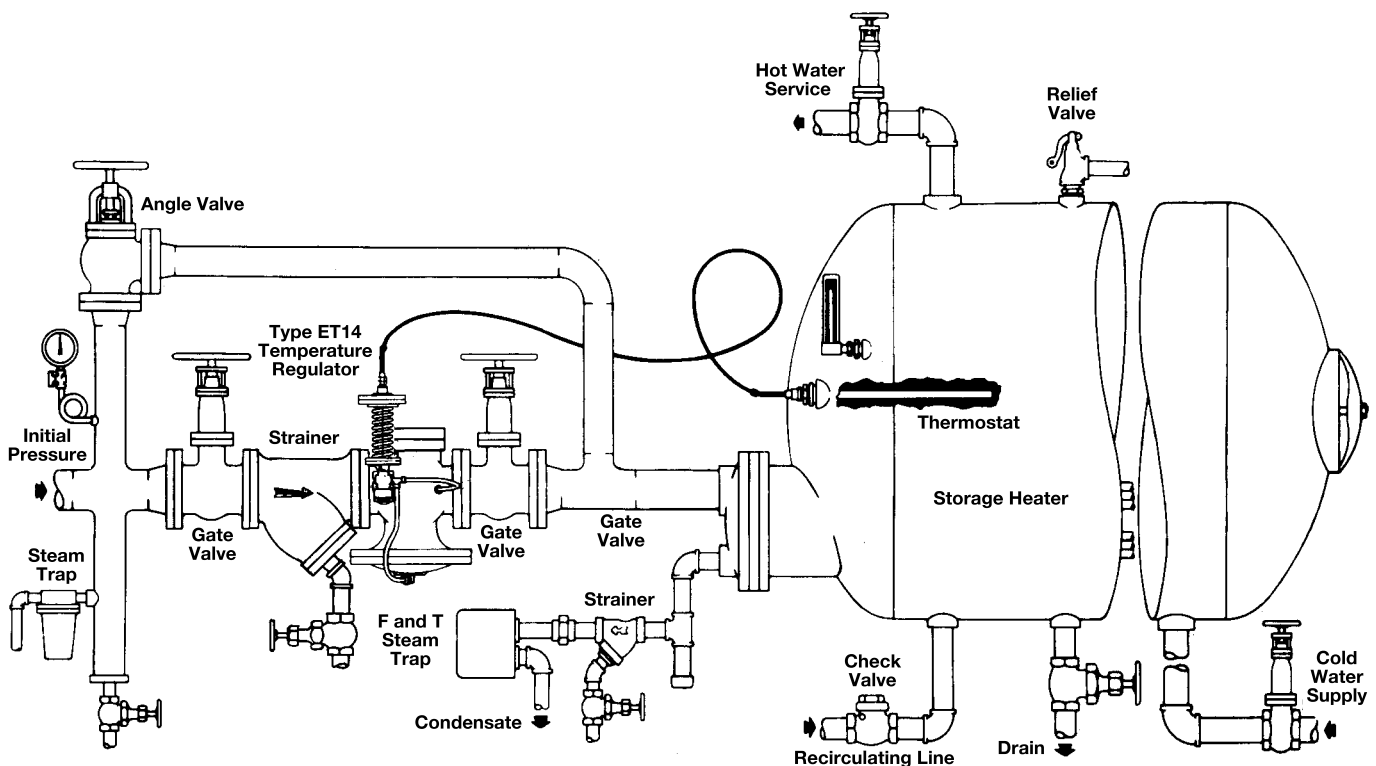
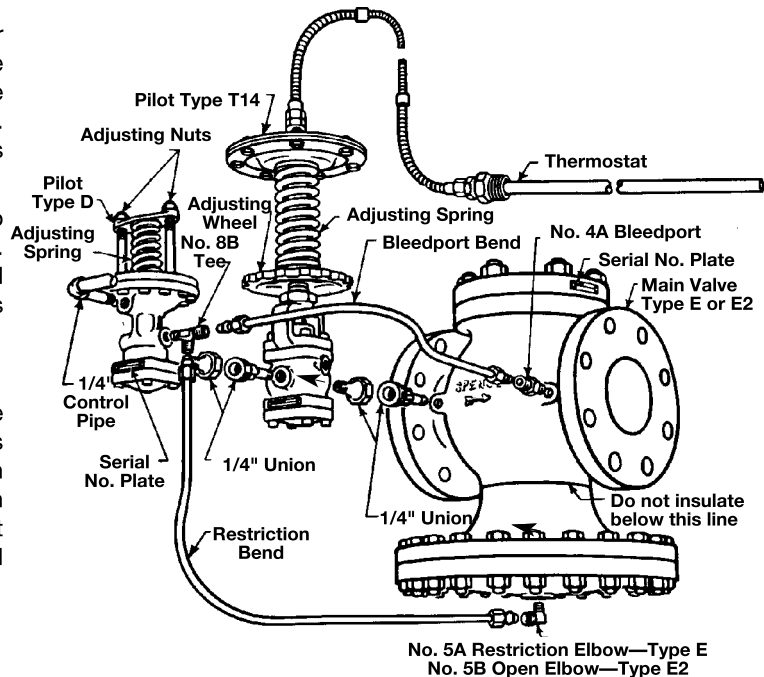
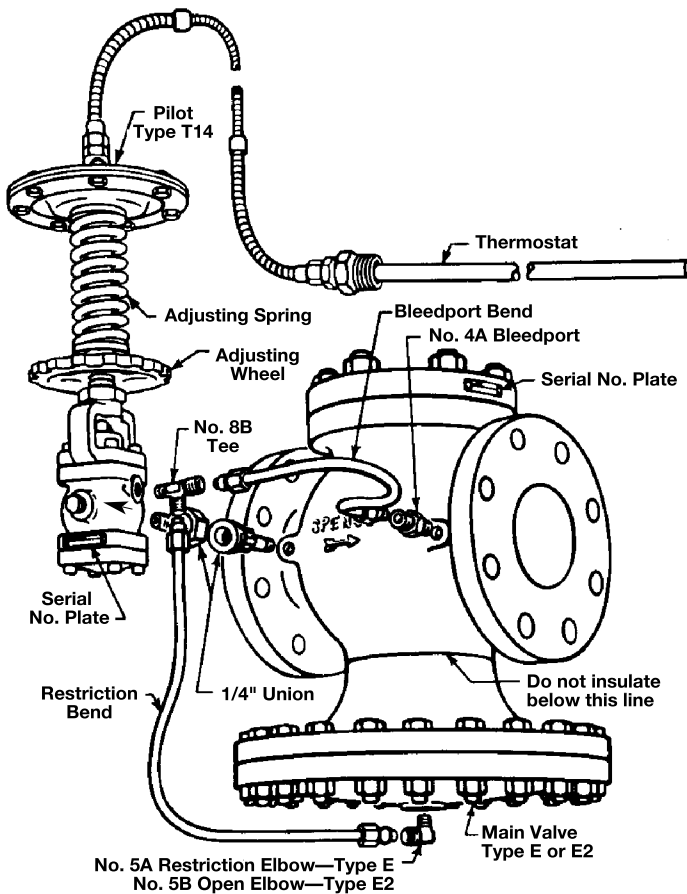

FIGURE 1
FIGURE 3
FIGURE 2
When steam is turned on, it flows to the pilot through the connecting nipple and union (see Fig. 1). At the No. 8B tee on the pilot outlet, the flow divides. One branch is connected to bleedport No. 4A and the other to restriction elbow No. 5A and the underside of the main valve diaphragm. Bleedport No. 4A restricts the flow, builds pressure under the diaphragm and opens the main valve. Restriction No. 5A steadies the operation of the regulator.
Mount the pilot on either side of the main valve by means of 1/4" nipple and union provided. Make this connection the the 1/4" pipe tap at the inlet side of the main valve as shown in Figure 2.
Connect tubing bends as illustrated in Fig. 2. Valves with condensation chamber are fitted up according to Figure 3.
Use 1/4" pipe for this line which connects the pilot pressure diaphragm chamber (Fig. 2) to the desired point of pressure control. On instantaneous heaters with steam in shell, tap the control pipe into the shell. Otherwise, enter the delivery steam pipe at point of entrance to heater. Pitch the control pipe away from the pilot and avoid water pockets. Insulation may be applied to the upper portion (globe and flanges) of the main valve. Do not insulate the diaphragm chamber or any part of the pilot (Fig. 1).
**For ET14:** Close bypass and open outlet stop valve. Blow down strainer. Gradually open inlet stop valve. Turn temperature adjusting wheel (Fig. 1) to obtain desired control temperature.
**For ET14D:** Close bypass, open 1/4" control pipe valve and turn up the temperature adjusting wheel (Fig. 1) until 1/2" of thread is exposed. Back off pressure adjusting screw to remove all compression from D Pilot adjusting spring.